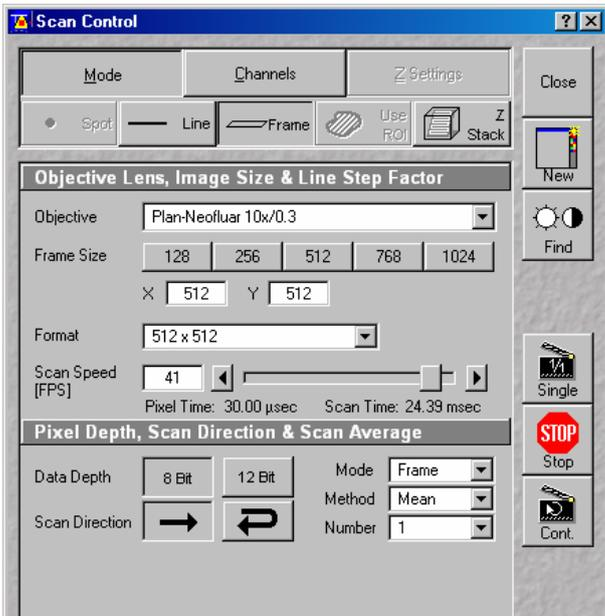

Fig. 26 Scan Control window, Mode settings
- The **Scan Control** window appears (Fig. 26).
- Use the **Scan Speed** slider in the **Objective Lens, Image Size & Line Step Factor** panel (Fig. 26) to adjust the exposure time.
- Select the dynamic range 8 or 12 Bit (per pixel) in the **Pixel Depth, Scan Direction & Scan Average** panel (Fig. 26).